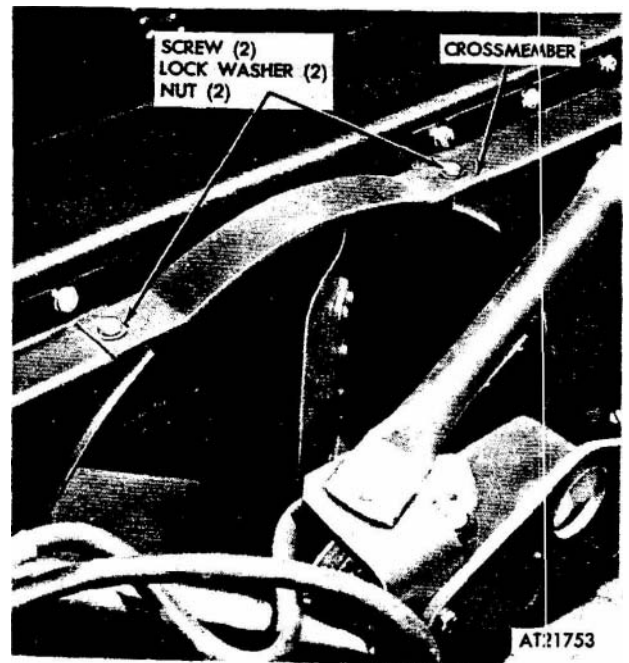

Figure 2-101. Fan drive belt access, crossmember removal.
- (1) Open and secure engine cover (refer to TM 9-2320-242-10).
- (2) Remove top **crossmember** securing right- and left-hand shrouds by removing two screws, lock washers, and nuts (fig 2-101).
(3) Attach crossmember to left-and right-hand shrouds with two screws, lock washers, and nuts (fig 2-101).